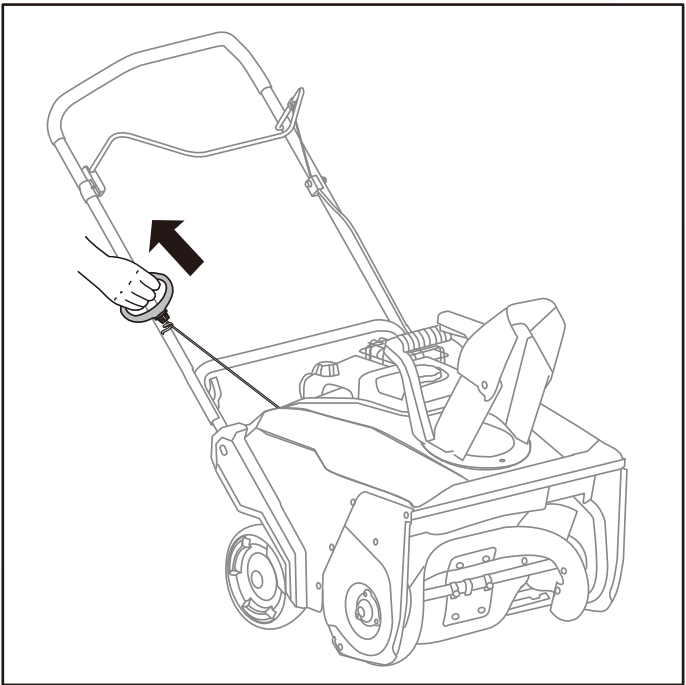

Fig. 9B
4. Standing back and to the right of the unit, pull the starter grip lightly until you feel resistance then pull briskly. Return the starter grip gently. (Fig. 9B)